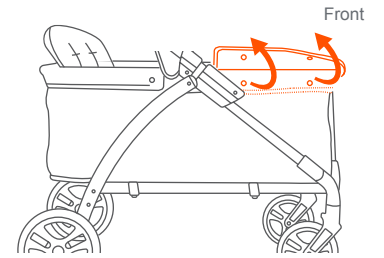

Fig. 17a
- 17)** • If replacing the wagon fabric, undo the snap buttons on the fabric on the front end of frame (Fig. 17a).